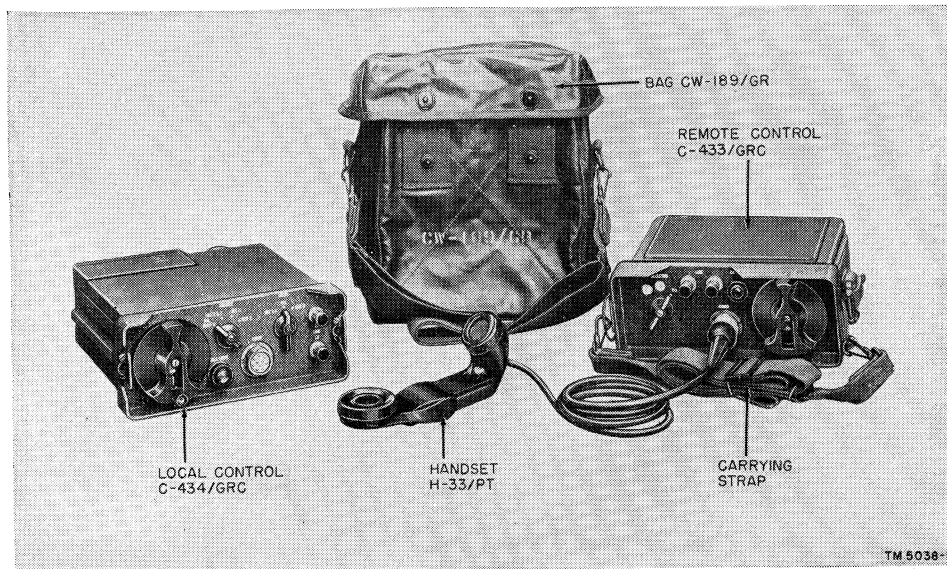

Figure 32. Control group AN/GRA-6.
a. Control Group AN/GRA-6 (fig. 32) may be used to control a radio set from a position as far as 5 miles away. It also provides for telephone communication (including ringing) between the local and remote control stations. Control Group AN/GRA-6 consists of Local Control C-434/GRC, Remote Control C-433/